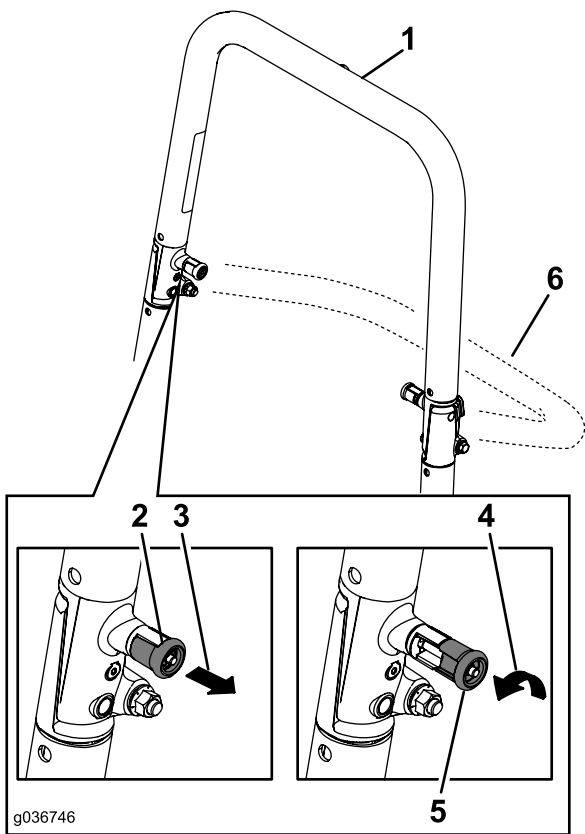

Figure 9
2. Pull both knobs out and rotate them 90 degrees so they are not engaged (Figure 9).
3. Lower the roll bar to the down position (Figure 9).
4. To raise the roll bar, raise the roll bar to the operating position and rotate the knobs until they move partially into the grooves (Figure 9).
5. Raise the roll bar to the full upright position while pushing on the upper roll bar so that the pins snap into position when the holes align with the pins (Figure 9).